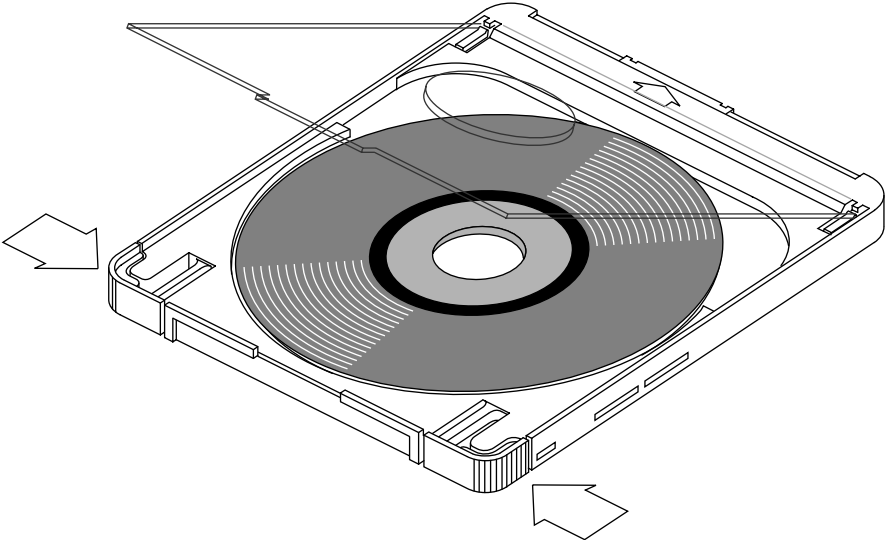

Figure 4-9 Disc Loaded in Caddy
6. Hold the caddy by its tabs and orient it as shown in Figure 4-9.